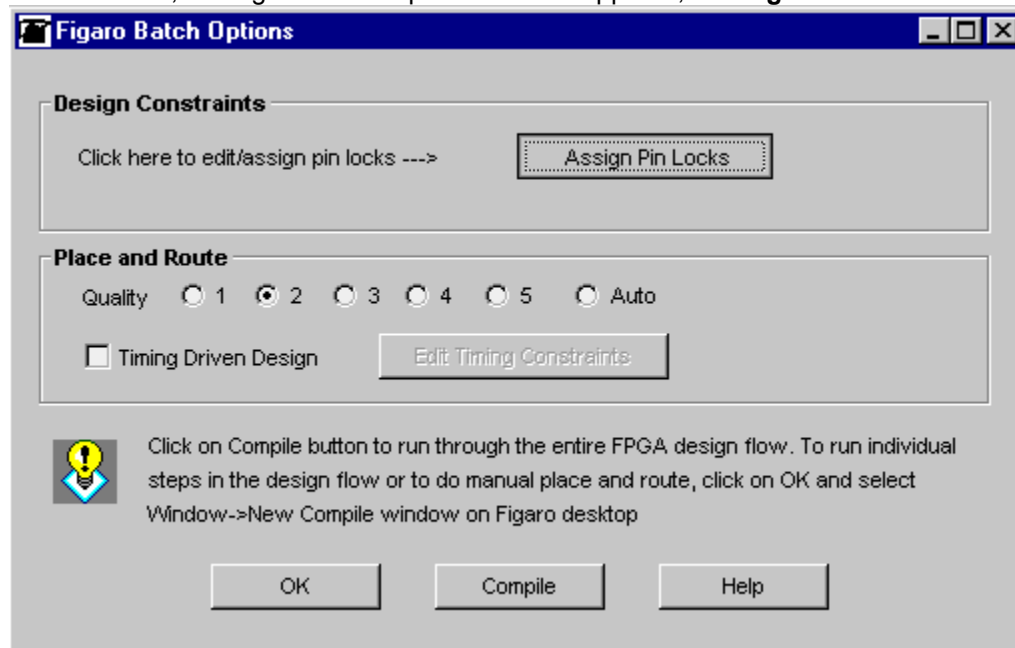

Figure 17 Figaro Batch Options
3. Press OK, the Figaro Batch Options window appears, see **Figure 17**.